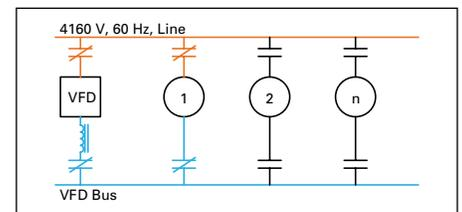

Figure 10.4-18. VFD Synced to Input
- PLC closes motor select (**Figure 10.4-18**)